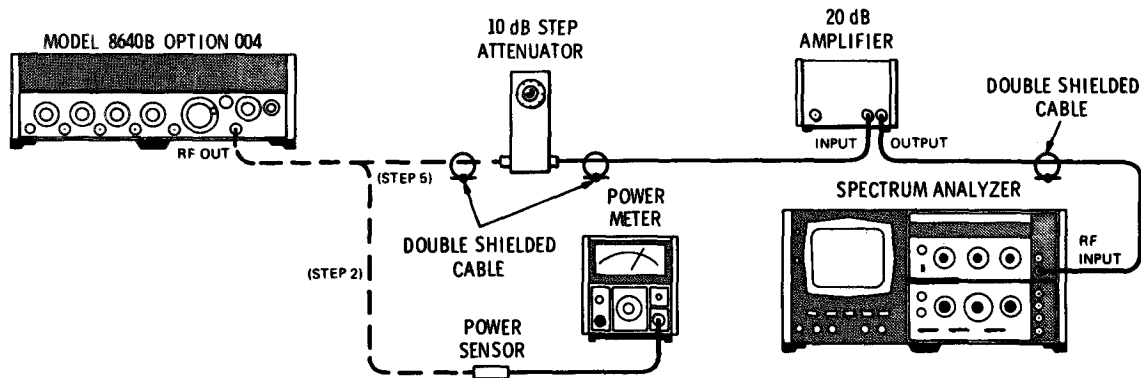

Figure 5-2. Output Level Vernier and Meter Adjustment Test Setup
- 1. Connect equipment as shown in Figure 5-2 after setting Signal Generator's controls as follows: